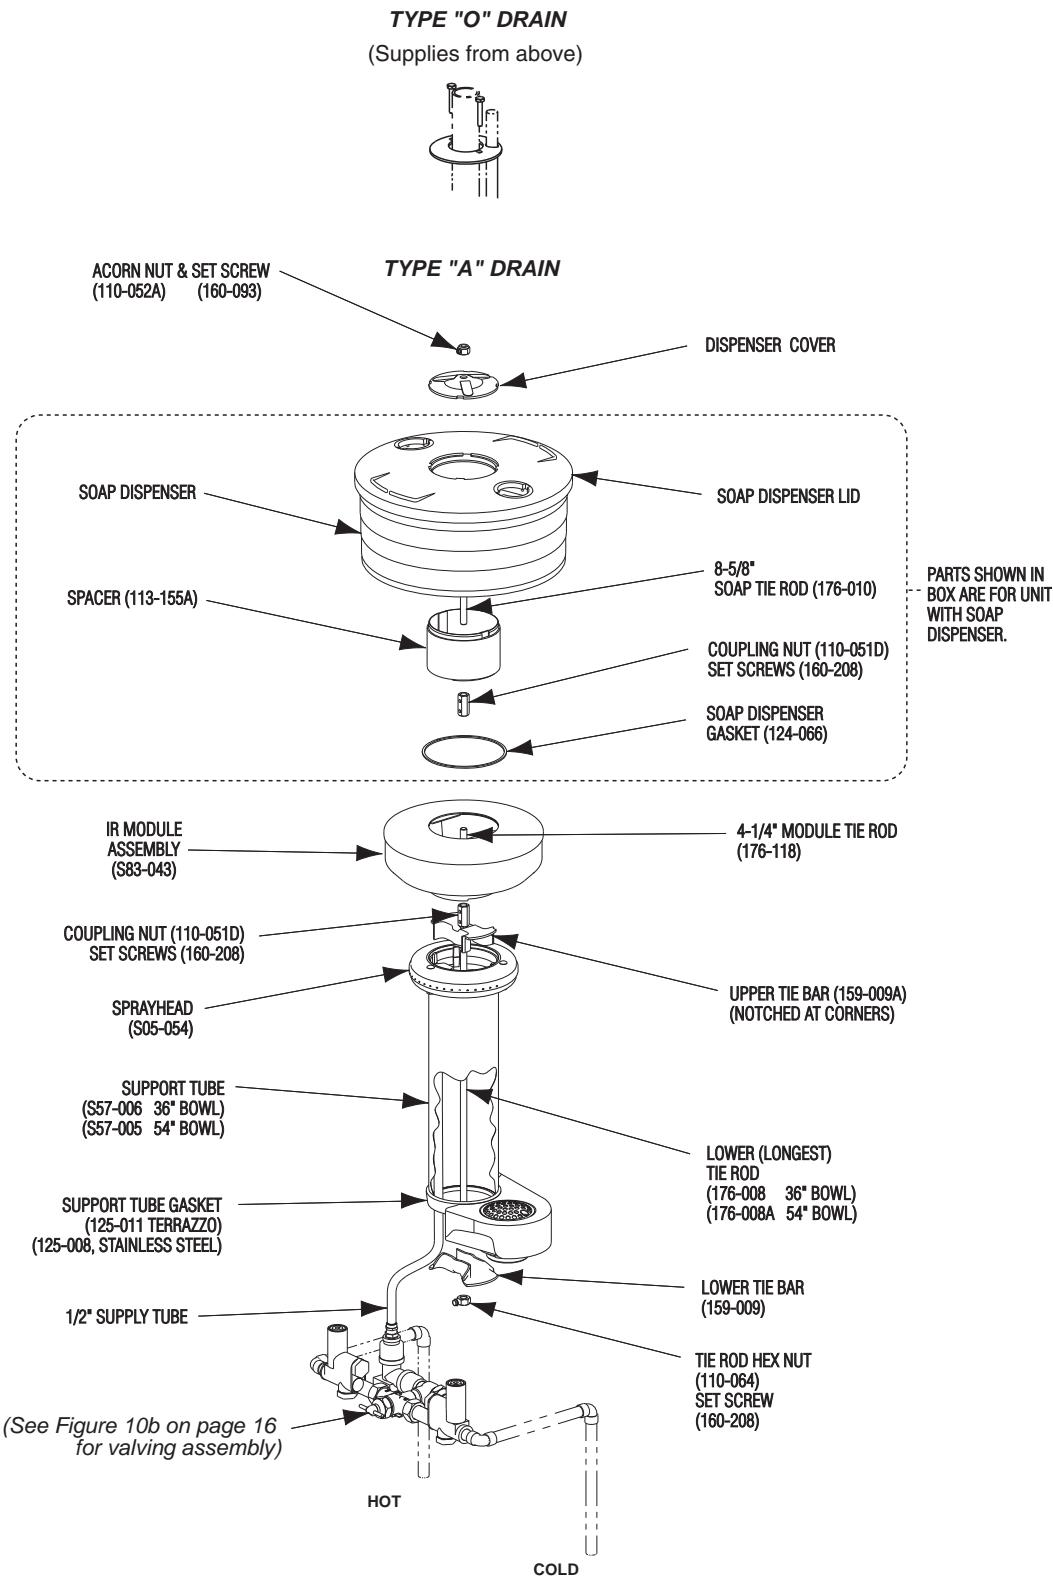
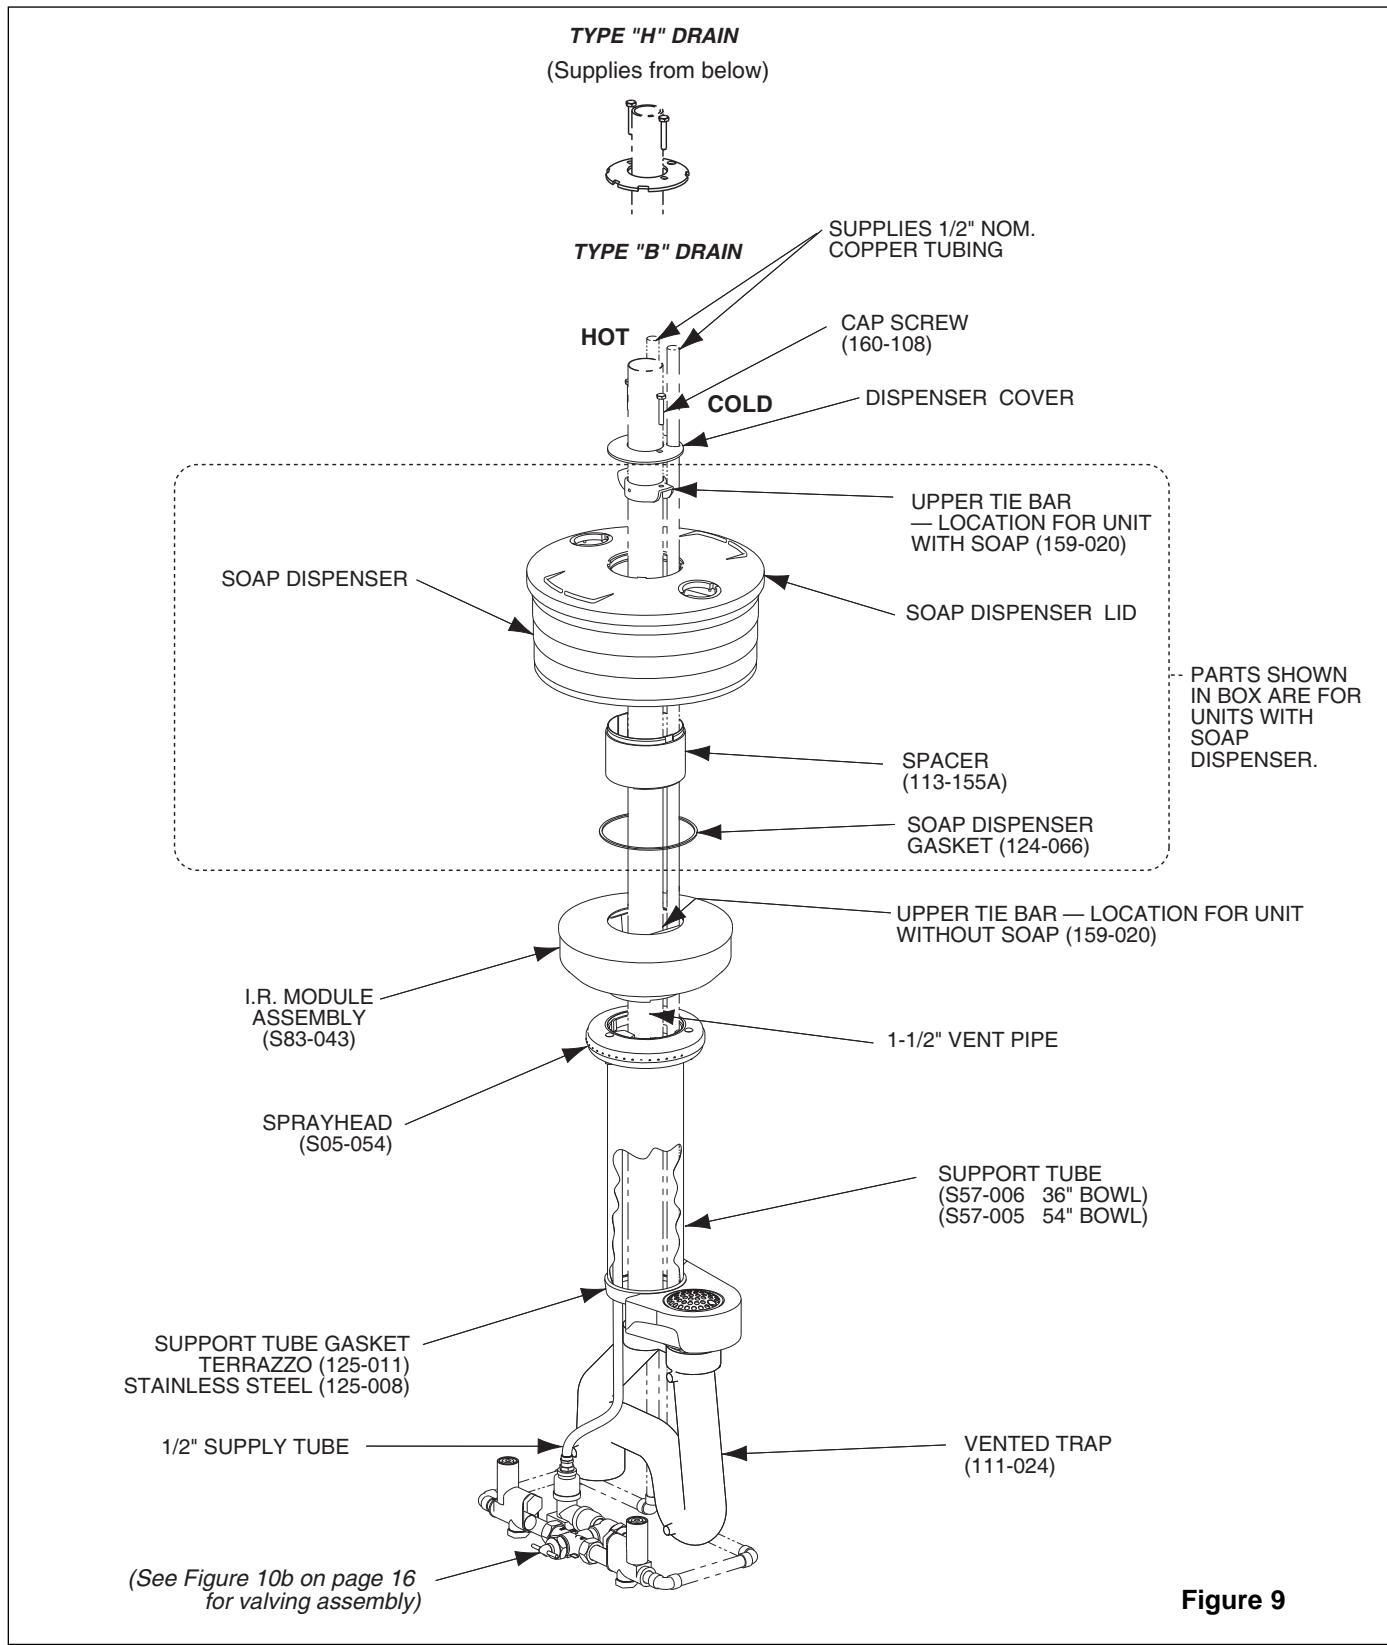

Figure 8
Figure 9
1. Install hemmed end (not sharp end) of support tube with gasket onto bowl as shown in Figure 8 on page 12.
3. Place sprayhead with 1/2" tubing onto support tube as shown in Figure 8 on page 12. Run tubing down through support tube.
4. Assemble the lower tie rod (the longer threaded rod), upper tie bar (notched at corners), lower tie bar, tie rod nut, and coupling nut, then attach the 4-1/4" tie rod to coupling nut as shown in Figure 8.
- 6a. **FOR UNITS WITH SOAP OPTION:** Install the soap dispenser gasket, spacer, soap dispenser, and dispenser cover using the coupling nut, third tie rod (8-5/8" long) and second coupling nut as shown (see Figure 8). Secure with acorn nut and socket head set screw.
1. Install hemmed end (not sharp end) of support tube with gasket onto bowl as shown in Figure 9 on page 14.
3. Place sprayhead with 1/2" tubing onto support tube as shown in Figure 9. Run tubing down through support tube.
- 8a. **FOR UNITS WITH SOAP OPTION:** Place the soap dispenser gasket, spacer, soap dispenser, and cover in position on top of infrared module (see Figure 9). Slide tie bar over 1-1/2" vent pipe 1/2" below top of soap dispenser lid and secure with the two cap screws included with the tie bar. Slide the dispenser cover over 1-1/2" vent pipe and secure with the two cap screws included with the tie bar.
NOTE: Refer to Figure 8 on page 12 for installation of unit with Type A or O drain. Refer to Figure 9 on page 14 for installation of unit with Type B or H drain.